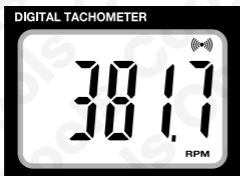

Figure 3
5. As the object rotates and the instrument receives information, the scanning symbol appears in the top right corner of the display (refer to **Figure 3**). Hold the measurement button **A** for between 4 and 10 seconds for the display to stabilise, then release; the test result is automatically saved.